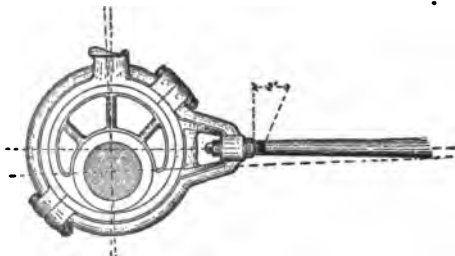

FIG. 108.—ECCENTRIC AND ROD.
A. The lines 1 and 2 on the disc plate represent its travel. The first eccentric rod will require no adjustment if placed as in Fig. 108, it being so marked on every engine, and the measurement from nut to mark being always two inches. Secure the eccen-